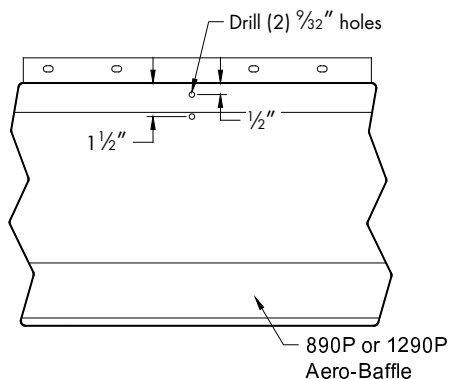

Figure 7A
Drill (2) $\frac{5}{32}$ " holes, centered on length of door. The first hole should be located $\frac{1}{2}$ " down from top of baffle and second hole should be $1\frac{1}{2}$ " from top of baffle. See Figure 7A.